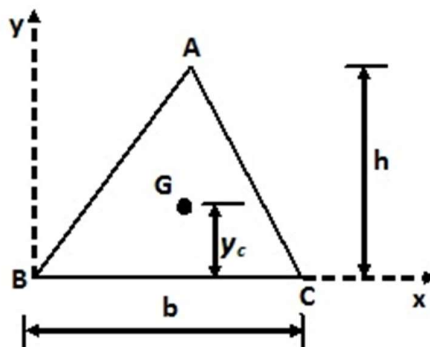

Figure 3
Q.3(b) Determine the distance y_c from the base BC of a triangle ABC to the centroid G of its area as shown in Figure 3. The triangle has base length b and height h. [5]